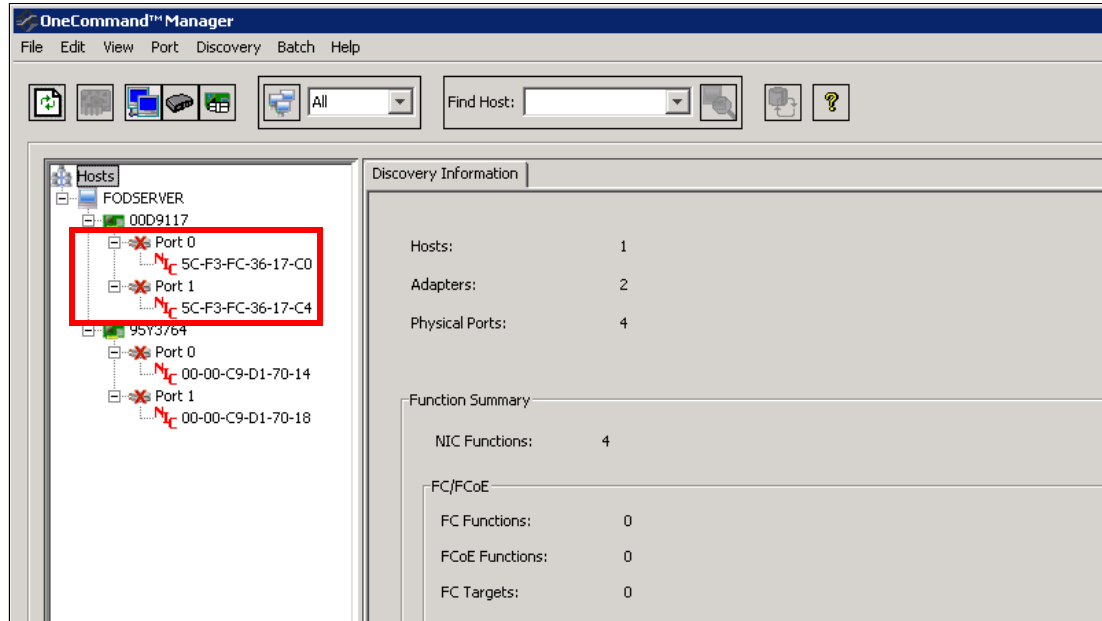

Figure 2-18 OneCommand Manager console that shows two Emulex VFA III adapters (x3650 M4)
1. Open OneCommand Manager. In our example, as shown in Figure 2-18, we have two Emulex III VFAs. The first adapter that is shown is an Emulex Dual Port 10GbE SFP+ Embedded VFA III for IBM System x (00D9117). The second adapter is the Emulex Dual Port 10GbE SFP+ VFA III for IBM System x (95Y3764). We obtain the FoD identifier for the first adapter only.
2. Note either of the MAC addresses that are shown for the first adapter, as shown in Figure 2-18. This information is used to identify the FoD identifier of the card.